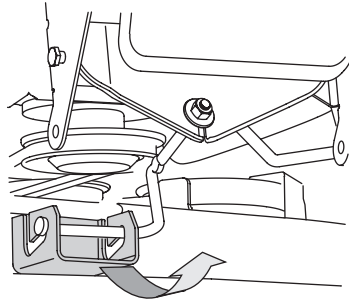

Figure 32
8. On 38" decks, gently slide the cutting deck toward the front of the tractor carefully guiding the hooks on the deck on the deck off of the deck stabilizer rod. See Figure 32.